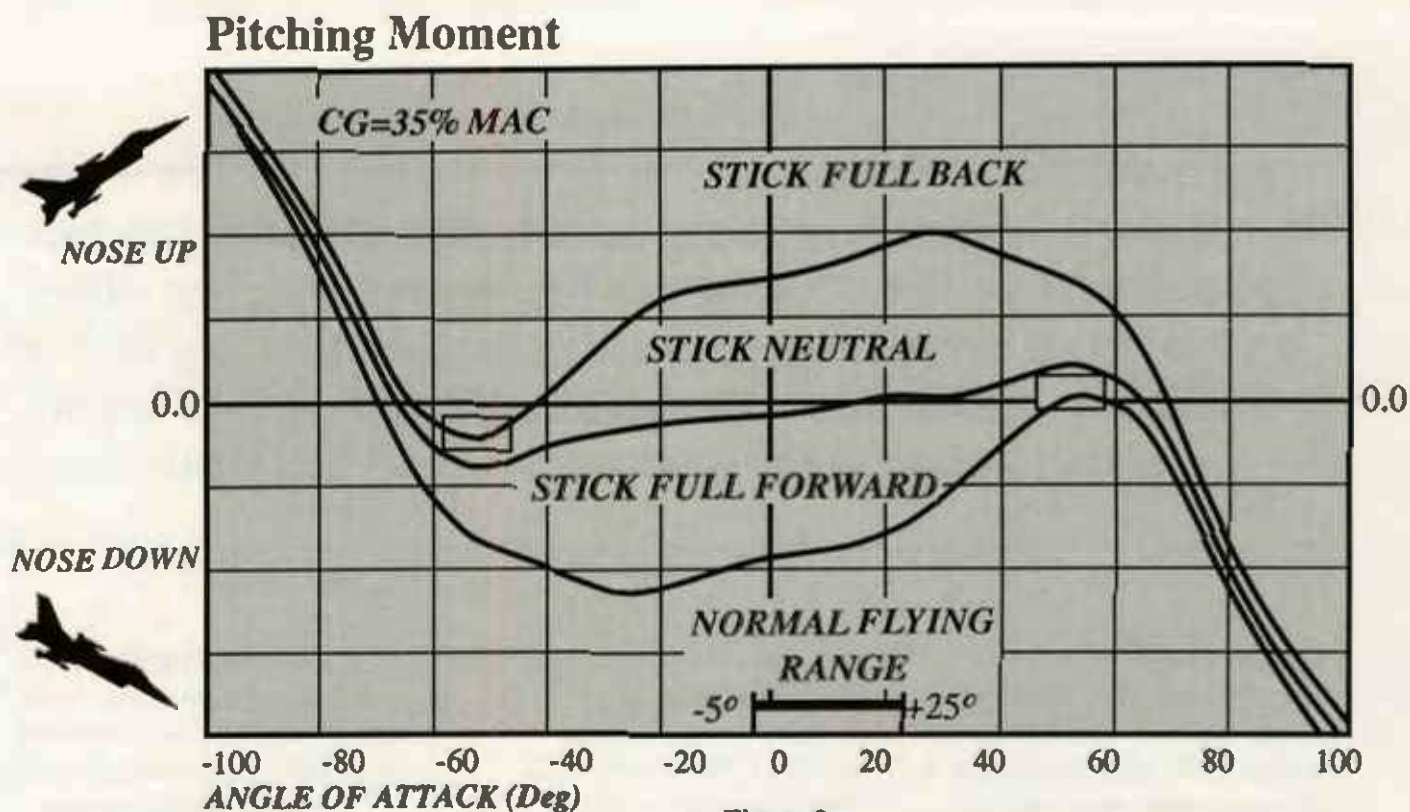

Figure 2
2. The airplane will go into an erect deep stall. Figure 2 shows that in the 50-60 degree AOA range, the total moments (read forces) on the airplane are essentially zero. Therefore, if you do something foolish to force the F-16 past the AOA limiter of 29 degrees and arrive in the 50-60 degree range with little or no pitch rate, the F-16 is happy to stay there.
3. The airplane will go into an inverted stall with no rotation. The other side of Figure 2 shows a location similar to Case 2 above. The aircraft will behave inverted as it does erect.